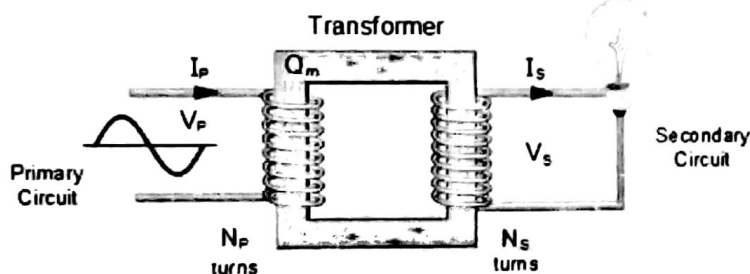

FIGURE 4A
4. A. The nameplate of the electrical transformer shown in FIGURE 4A reads 66-KVA, 11-KV/2200-V, 50-Hz. Calculate the turns-ratio of the transformer. What AWG size wires, in your humble opinion, are being used for primary and secondary windings Use Table 1. [1]